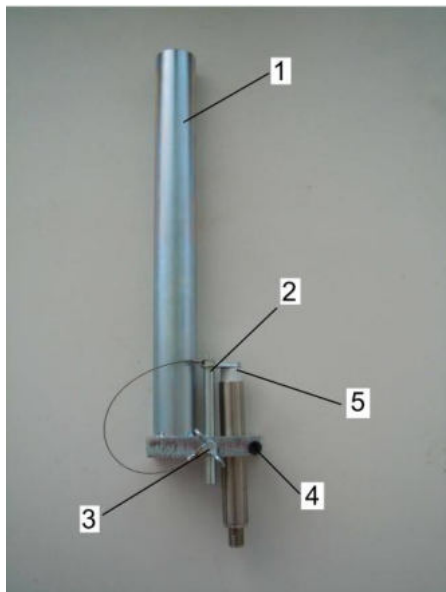

Fig.102: Tube type sensor bracket with tool
3. Place the tool (Fig.102/2, 103/2) into the foreseen hole of the sensor bracket (Fig.102/1, 103/1).
4. Slide down the tool, until it rests on the sensor tip (Fig.102/5, 103/5).
5. Fix the tool by using the thumbscrew (Fig.102/3, 103/3).
6. Make sure that the tool is still in contact with the sensor (Fig.102/5, 103/5).
8. Loosen the clamping bolt of the sensor (Fig.102/4, 103/4) and remove the sensor.
9. Insert a new sensor and make sure that it is in contact with the contact plate of the tool (Fig.102/5, 103/5).
11. Tighten the clamping bolt (Fig.102/4, 103/4) with a torque moment of 16 Nm.
13. Remove the clamping bolt (Fig.102/3, 103/3) and remove the tool (Fig.102/2, 103/2).